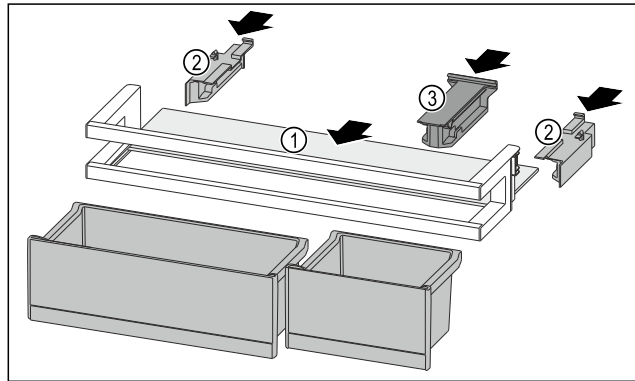

Fig. 251
- ▶ Push the shelf Fig. 251 (1) into the side recesses.
- ▶ Insert the side parts Fig. 251 (2).
- ▶ Insert the holding part Fig. 251 (3).